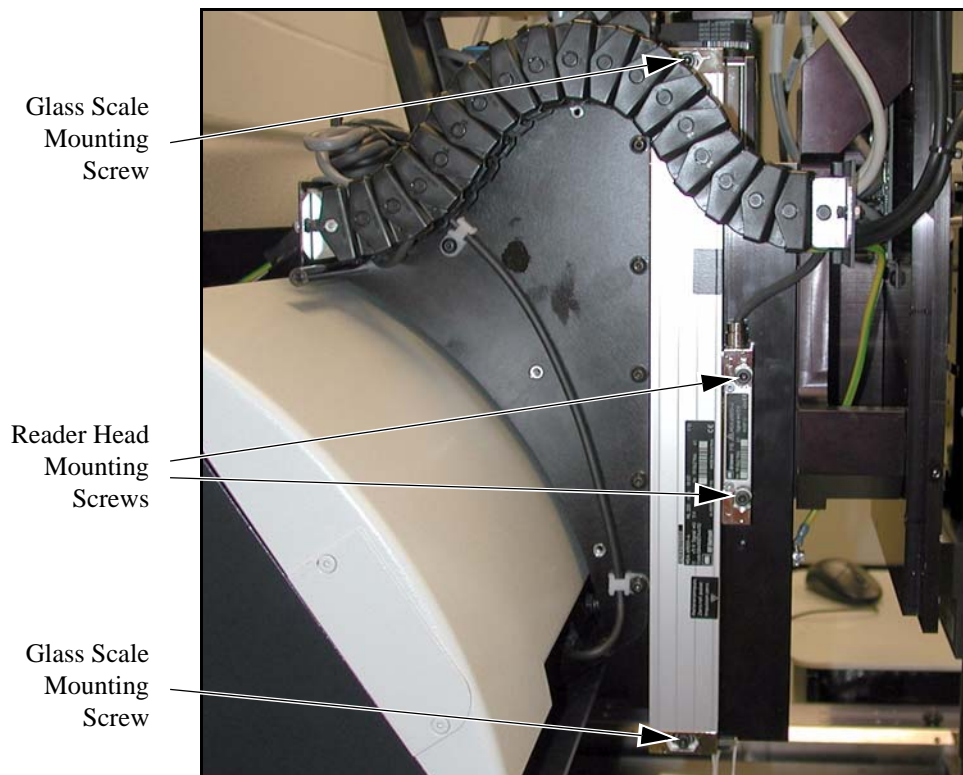

Figure 9-14 Removing the Z-Axis Glass Scale and Reader Head
7. Use a 3 mm Allen wrench to remove the glass scale and reader head (see Figure 9-14). Retain all mounting hardware.